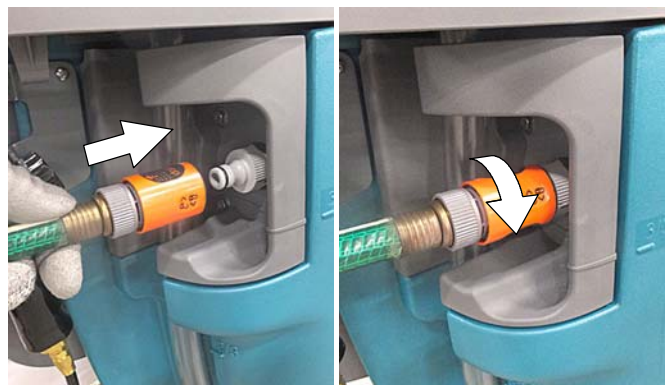

FIG. 23
2. Press the quick-disconnect coupler into the nipple fitting unit it clicks (Figure 23). To prevent hose from being pulled out while tank is being filled, turn collar on coupler clockwise to lock connection.